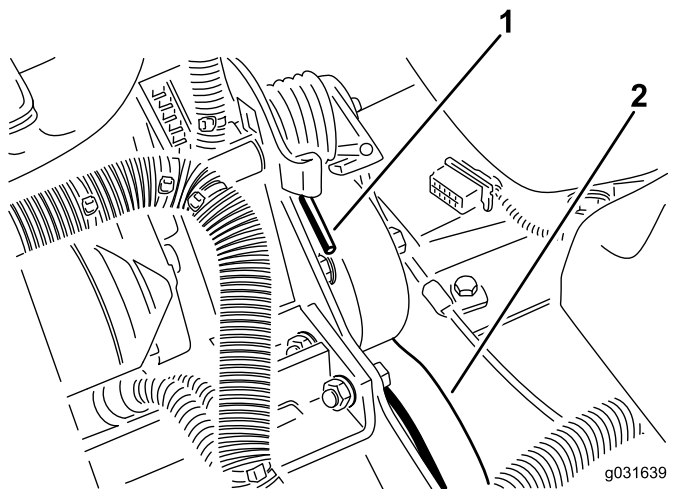

Figure 60
2. Push down and forward on the spring end to unhook it from the bracket and release tension on the spring (Figure 60).